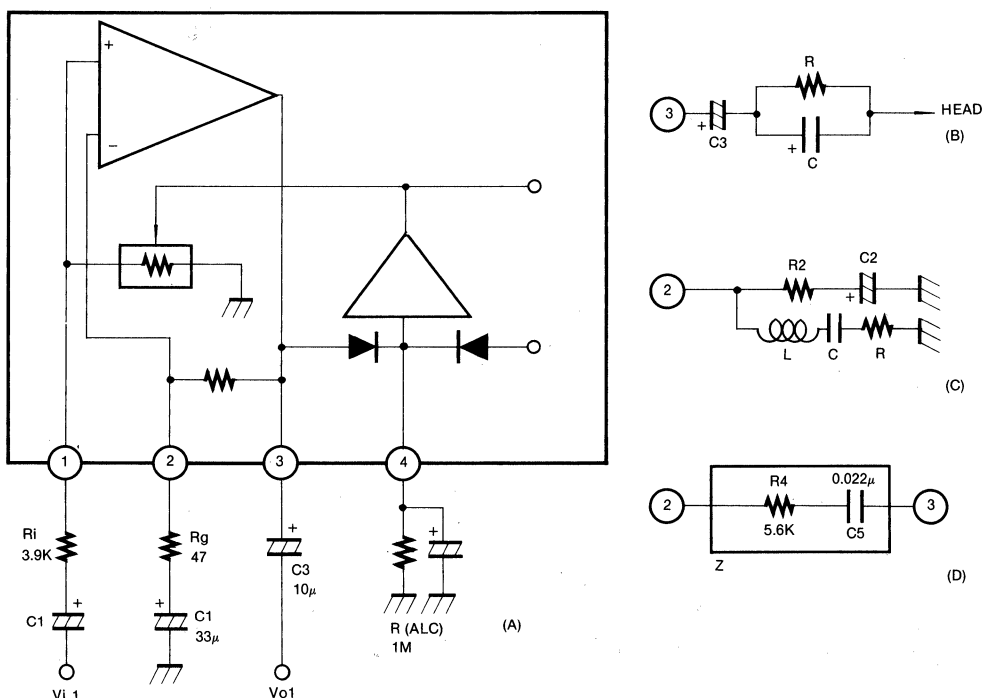

Fig. 1
2. Recording Amplifier (Figure 1 (A))
The recording amplifier requires a compensation circuit to correct loss at high frequencies. The compensation circuit may be either CR or LC resonance. Frequency response of resonance circuit is fixed at $1 \sim 4\text{KHz}$. An example using CR is shown in Figure 1(B), and one using LC resonance in Figure 1(C).